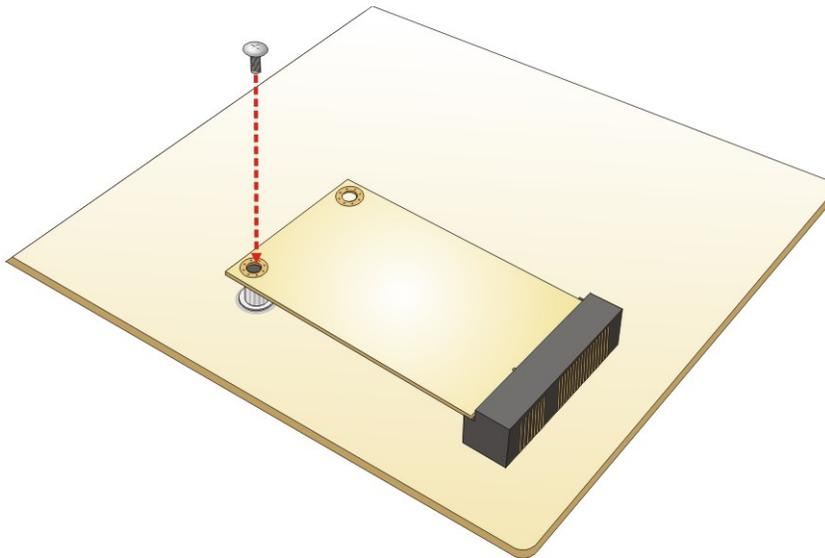

Figure 4-3: Securing the Full-size PCIe Mini Card
Step 4: Secure the full-size PCIe Mini card. Secure the full-size PCIe Mini card with the retention screw previously removed (Figure 4-3).